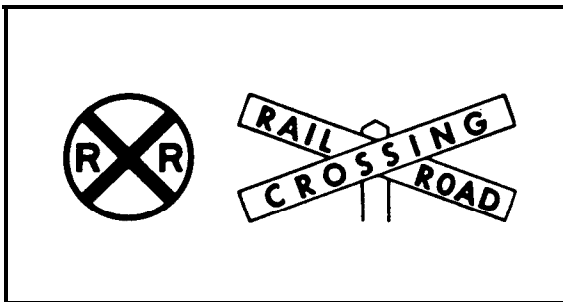

FIGURE 13
h. Railroad Crossing Signs. Railroad crossing signs are usually of two types (Figure 13): a circular sign with an “X” and the letters “RR,” placed at some distance from the railroad tracks, warns drivers that the tracks are ahead; a sign made only of crossed bars and bearing the words “Railroad Crossing” may be placed immediately at the crossing.